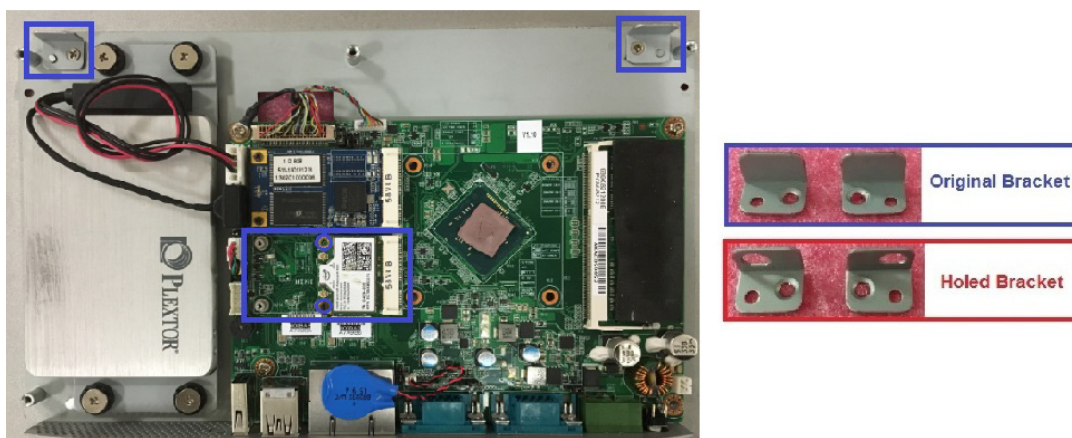

Figure 2.16 Secure the half-size mini PCIe card
3. Connect the antenna cables and fix them on brackets. Please note the cable routing. (See Figure 2.16 and Figure 2.17)